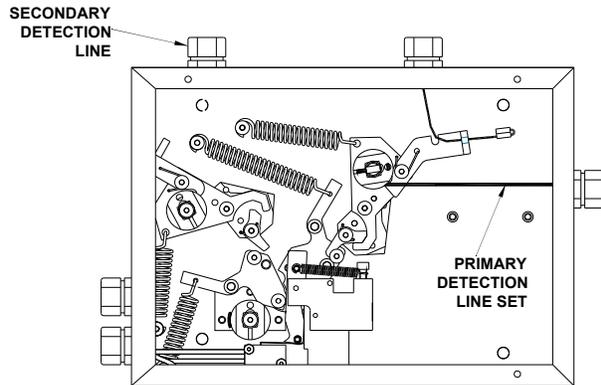

Figure 4-51.
Following Steps 2 through 5 given for the **Model SRM**, to set the primary detection line of the SRM-D. See **Figure 4-51**.
1. The secondary detection line will enter the enclosure from the top left knock out as shown in **Figure 4-51**.